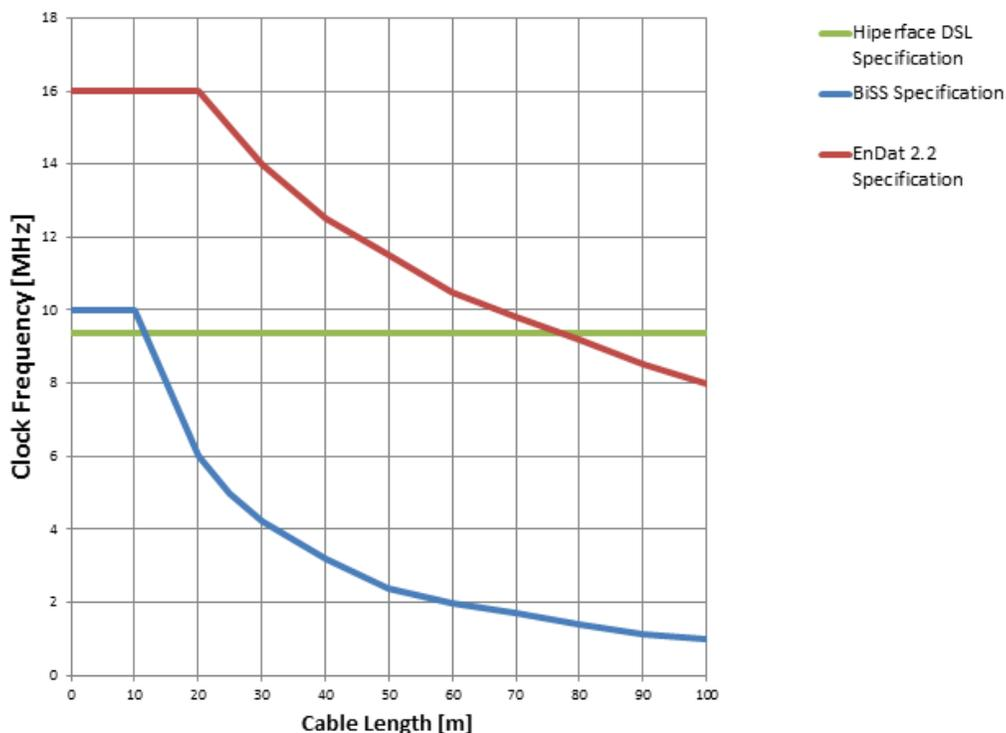

Figure 1. Maximum Clock Frequency vs. Cable-length Specifications from 0 to 100m
Figure 1 is an overview of the maximum clock frequency vs. cable length.
(1) 250mA is the maximum consumption in steady state. At startup, the current profile is 3.5A (100µs) and 1A (400µs).
(2) See Figure 1 for maximum clock frequency vs. cable length.
(3) Encoder vendor-specific.